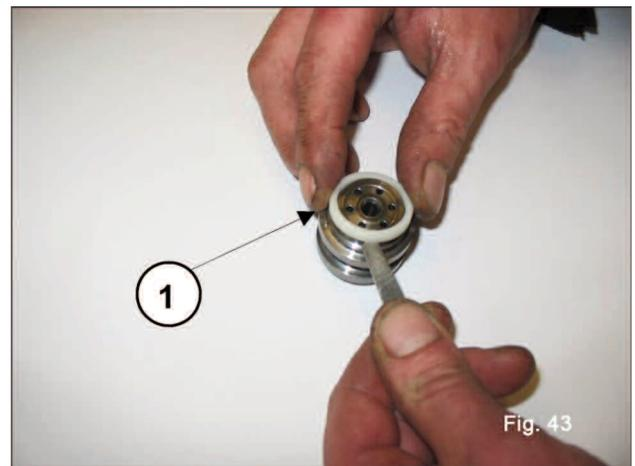

Fig. 43
- Extract the valve seats, 1, as shown in fig. 43, check the various components for wear and replace them if needed.